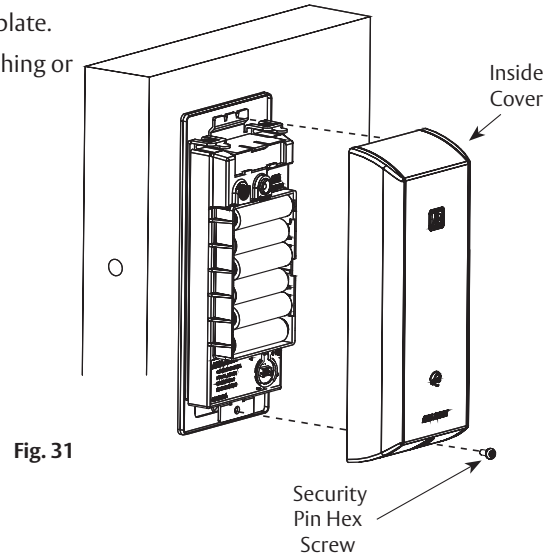

Fig. 31
4. Install inside cover. (Figure 31)